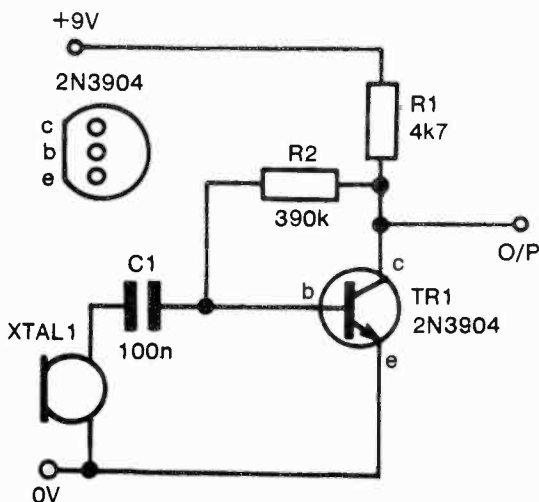

Fig. 47 Circuit diagram of Module 22.
*Circuit diagram:* see Figure 47.